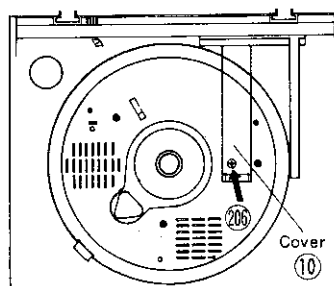

Figure 3
- 1-5. Remove the screw (206) which mounts the Cover (10) to the Cabinet top (1).
- 1-6. Remove the Cover (10) from the Cabinet top by drawing it (Fig. 3).